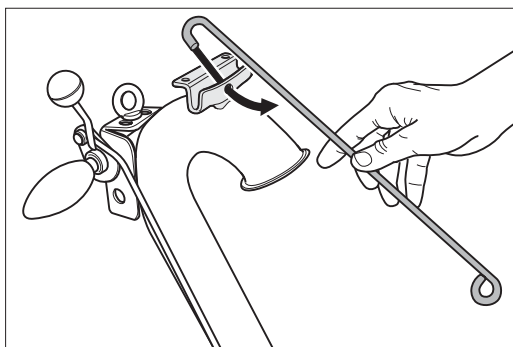

Fig. 5 Suspend the cable support into the provided hole.
- 5 Mount the cable support onto the provided bracket at the top of the guide tube (Fig. 5)